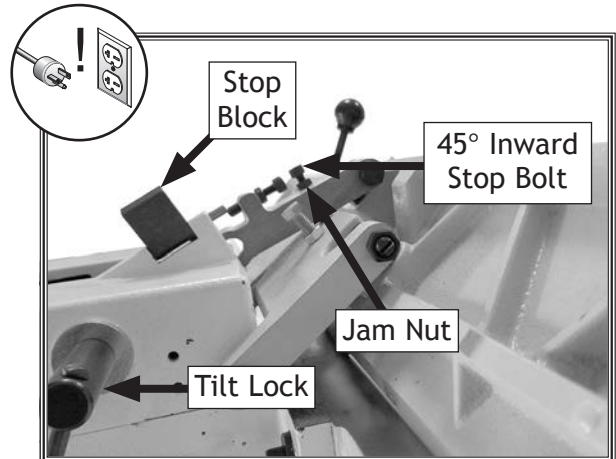

Figure 56. Fence set to 45° inward.
2. Loosen fence tilt lock, rotate stop block up, then tilt fence approximately 45° inward onto stop bolt (see **Figure 56**).
4. Loosen jam nut on 45° inward stop bolt and adjust stop bolt until fence is exactly 45° inward while resting on stop bolt (see **Figure 56**). Verify angle, then retighten jam nut.